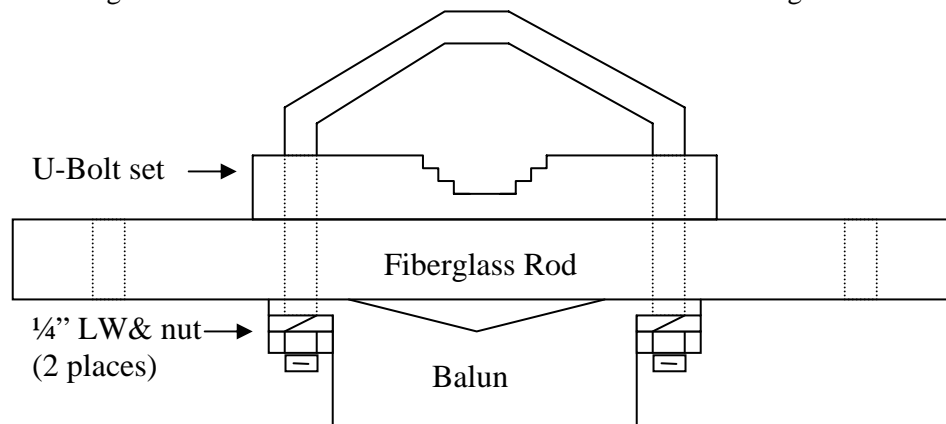

Figure 2: Balun/Center Insulator Assembly – Top View
- 5) Bolt the balun loosely to the 1 x 12" fiberglass rod using the U-bolt set and 1/4-20 hardware. The nuts will be tightened when the antenna is mounted on the mast. See Figure 2.